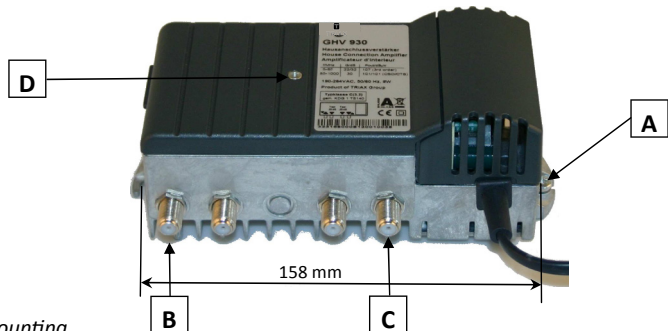

Fig. 1 Mounting
- ☞ Fasten the Amplifier according to its measurements (See Fig. 1.) on the wall. (Screws- \varnothing max. 4.8 mm, Distance between holes 158 mm)
Remove the top cover of the Amplifier by removing screw D (see Fig. 1)